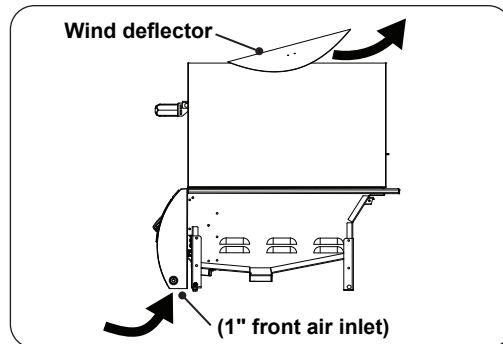
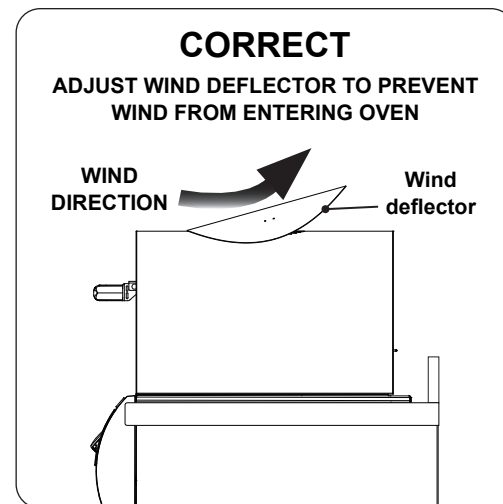
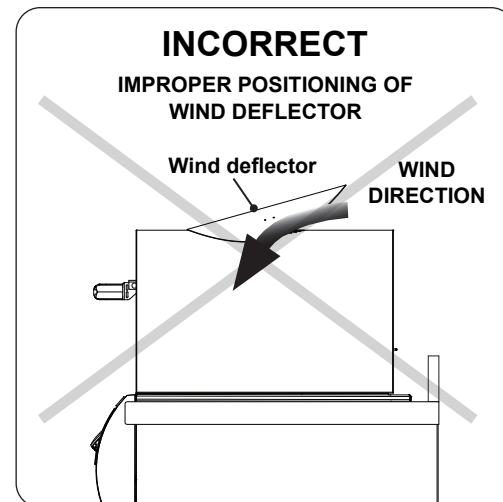

Fig. 15-2 Airflow diagram
Fig. 15-3 Airflow direction - CORRECT
Fig. 15-4 Airflow direction - INCORRECT
Proper airflow (front-to-back, Fig. 15-2) **MUST** be maintained for the unit to perform as it was designed. If airflow is blocked, overheating and poor combustion will result. Do not block the 1" front air inlet along the bottom of the control panel.
**CAUTION:** Wind blowing into or across the oven exhaust (Fig. 15-4) can cause poor performance and/or dangerous overheating. Install the pizza oven so that the prevailing wind blows toward the front of the pizza oven (Fig. 15-3). A wind deflector is equipped to assist in proper airflow during windy conditions. See Fig. 15-2. **THE WIND DEFLECTOR WILL GET HOT WHEN THE UNIT IS ON.**